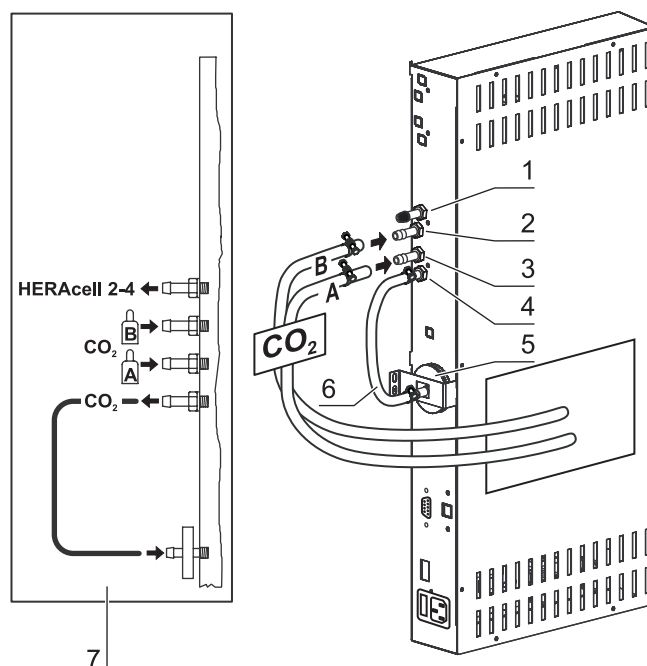

Fig. 25: Gas connection with gas monitoring system (optional)
**Fig. 25:** Devices with CO2 connections that are equipped with the optional gas monitoring system are connected according to the connection diagram [7].